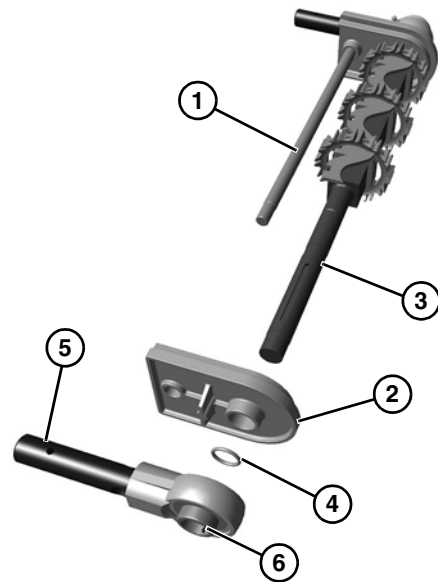

Figure 63
2. Install pinch guard shaft (**Figure 63, item 1**).
3. Slide the tracking plate (**Figure 63, item 2**) onto the drive spindle (**Figure 63, item 3**) and pinch guard shaft.
*When installing tracking plate, be certain O-ring (**Figure 63, item 4**) is installed.*
4. Slide the shaft assembly (**Figure 63, item 5**) onto the drive spindle and tighten set screws (**Figure 63, item 6**) on bearing.